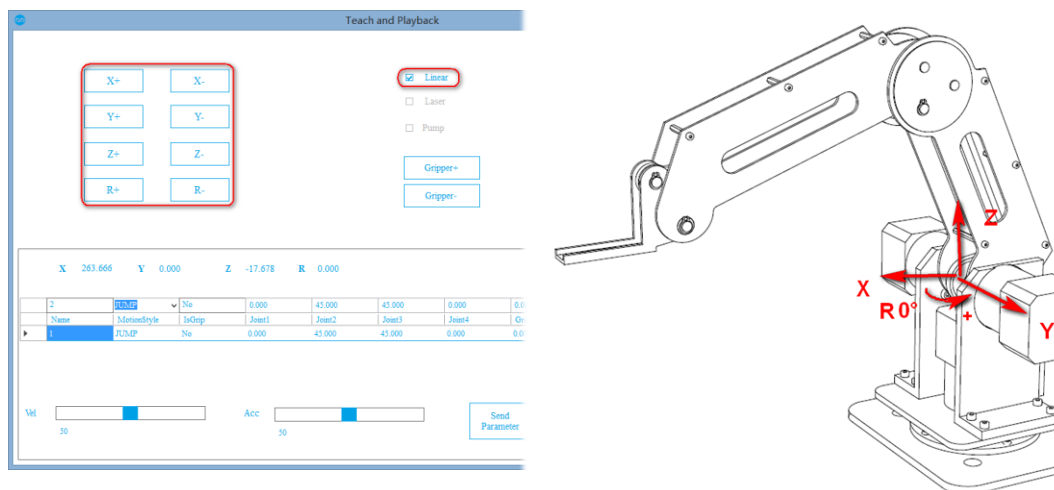

Figure 3.4 Coordinate frame
2. **Joint Jog/ Linear Jog mode switch:** click ② **Linear** to choose **Linear Jog Mode**. Now the center's coordinate of the end of robot arm is the target object. The three joints will run in cooperation to enable the robot arm move linearly in x, y, z direction.
3. **Linear Jog:** the coordinate frame of the robot arm is shown in Figure 3.4 left, the original point locates at the cross point of the shafts of three stepper-motors.